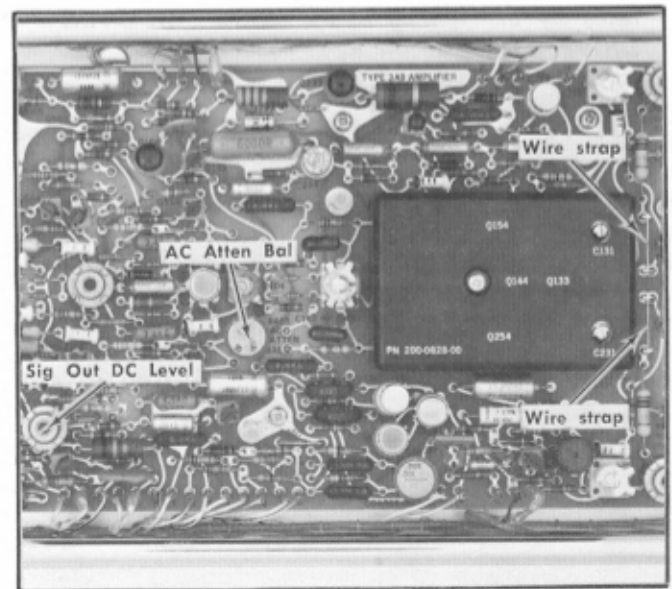

Fig. 2-2. Location of controls on Amplifier circuit board.
3. AC Atten Bal (internal adjustment, R405). When the LOWER -3 dB FREQUENCY switch is used to limit the low frequency response of the Type 3A10, the unit employs AC stabilization. This means that when the switch is set to any position except DC or DC OFFSET, the STEP ATTEN DC BAL and DC OFFSET controls become inoperative. VOLTS/DIV balance is then controlled with the AC Atten Bal, an internal adjustment (see Fig. 2-2). When transferring the Type 3A10 from one oscilloscope to another, it may be necessary to perform a minor readjustment of this control due to normal power supply variations between oscilloscopes.
To obtain a very high input impedance, unsolder the wire straps (see Fig. 2-2) between the input line and the internal 10-megohm gate return resistance. Either replace the straps with a high value of resistance (such as 100 M Ω) or remove the straps and leave the circuit open. If left open, the signal source must then provide a DC path for the FET gate current.